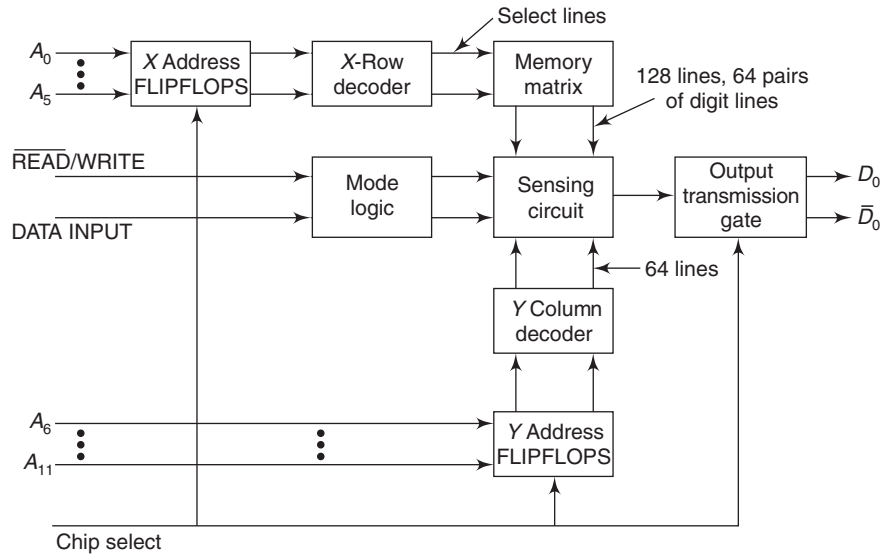
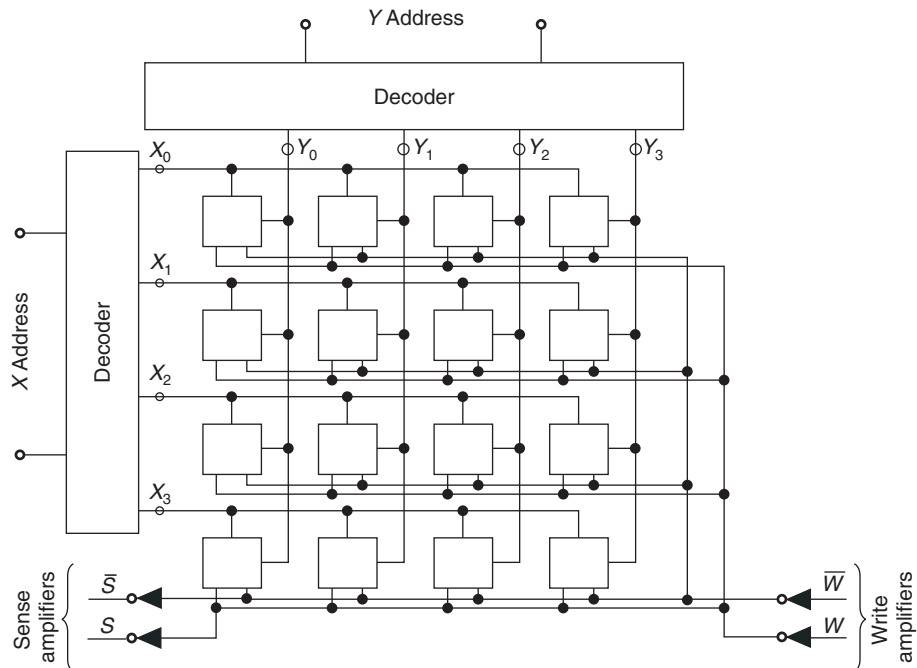

Fig. 5.8 Block diagram of a MOS static memory
Fig. 5.9 A 16 word $\times$ 1-bit RAM
Figure 5.8 shows a block diagram of a MOS static memory. The 4096 bits of memory are arranged in an array of 64 rows and 64 columns. The memory cells are accessed by simultaneously decoding the X address $A_0 - A_5$ for the rows and the Y address $A_6 - A_{11}$ for the columns. The Chip Select (CS) input controls the operation of the memory. When CS is low, the input address buffers, decoders, sensing circuits, and output stages are held in the off state, and power is supplied only to the memory elements. When CS goes high, the memory is enabled. The CS pulse clocks the TTL level addresses, READ-WRITE, and DATA input into D flip-flops and enables the output stage. When a cell is read from, one of the two outputs will be a 1. Figure 5.9 shows